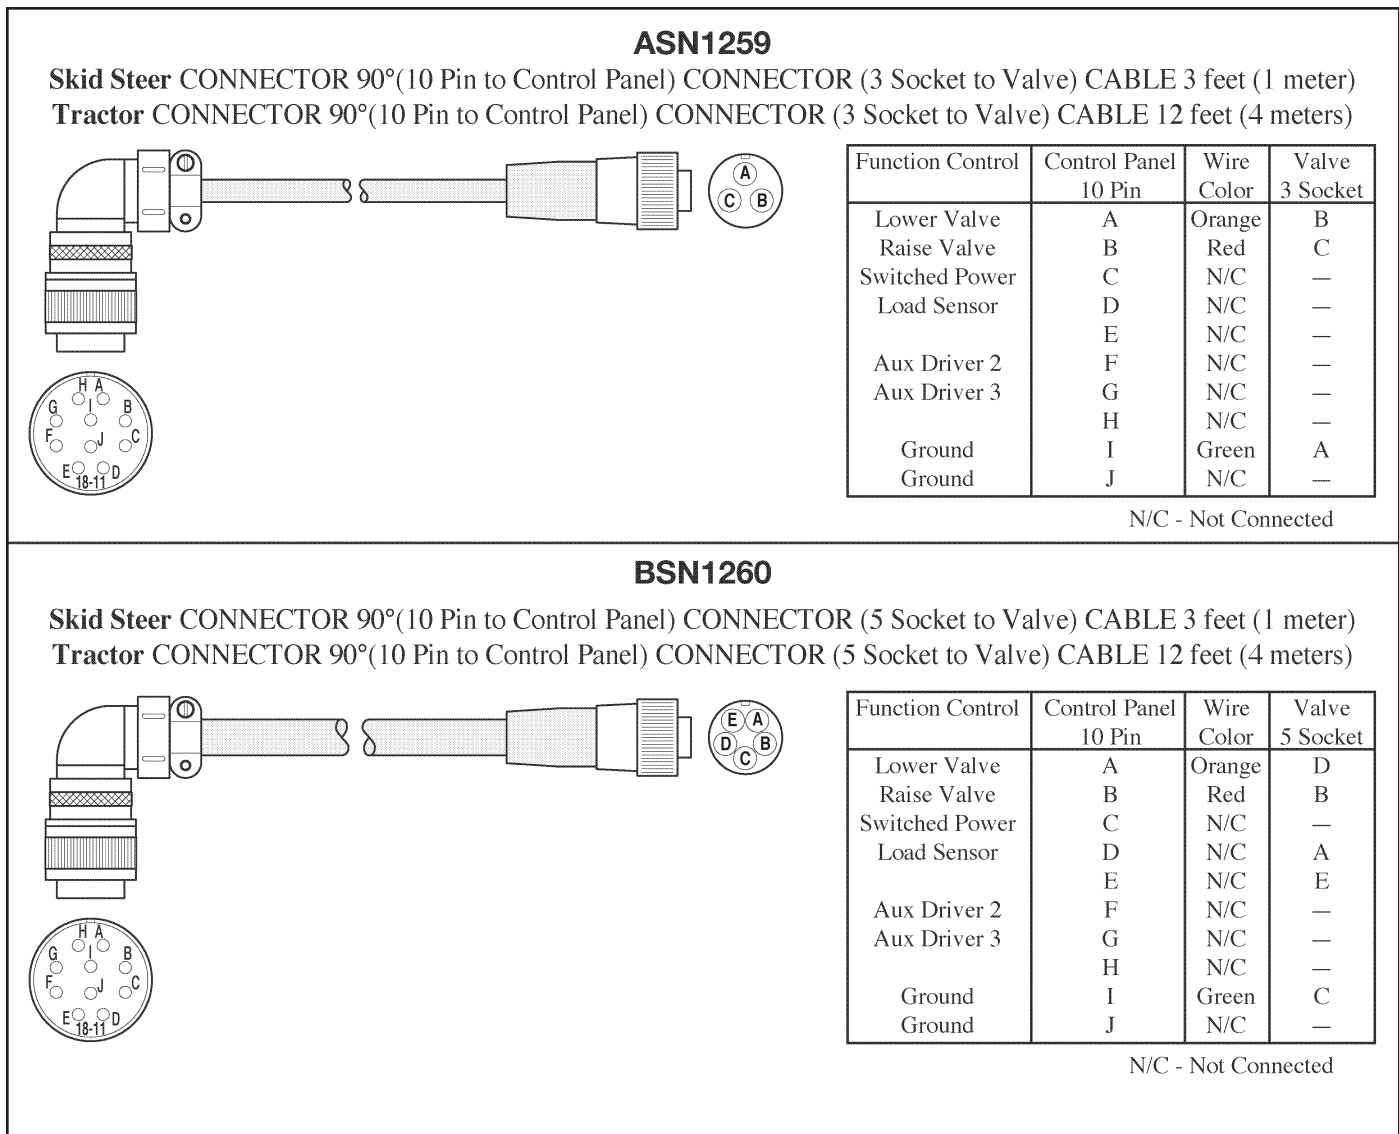

Figure 17. Solenoid Cable Pin Detail
9. Connect the straight end (molded) of the Solenoid Cable to the directional valve and the 90° connector (10-pin) to the back of the Control Panel. (Refer to Figure 17.)
8. Connect the straight end (molded) of the Solenoid Cable to the directional valve and the 90° connector (10-pin) to the back of the Control Panel. (Refer to Figure 17.)